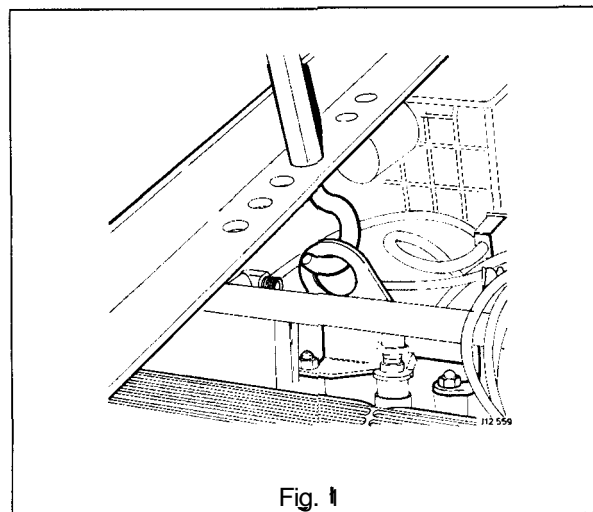

Fig. 1
- Fit Service Tool MS 53B (Fig. 1) and take the weight of the engine with the hook.